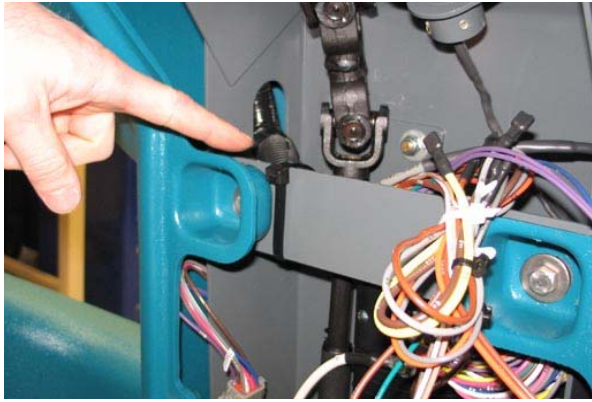

FIG. 66
34. Use a cable tie to secure the wire harness to the steering channel upper cross member and away from the steering shaft. (Fig. 66)